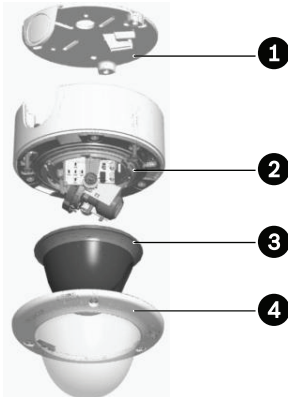

Figure 2.2 FlexiDome IP components
5. Loosen the three tamper-resistant screws in the FlexiDome IP Trim Ring (the screws remain in place) using a T20 pin-in Torx driver. Remove the Trim Ring with Dome (Figure 2.2, item 4) by pulling it off of the base.
6. Remove the Inner Liner (Figure 2.2, item 3) by removing it from the Camera Module/Base.
7. Loosen the three Phillips head screws that secure the Camera Module/Base (Figure 2.2, item 2) to the Mounting Plate (Figure 2.2, item 1). Do not remove the hex-head screws.
10. Align the holes in the Recess Bracket and the Mounting Plate. Attach the Mounting Plate to the Recess Bracket, (item 5, below) using the three #10 Flat Washers and the three #10-24x1/2 in. Phillips Head Screws.